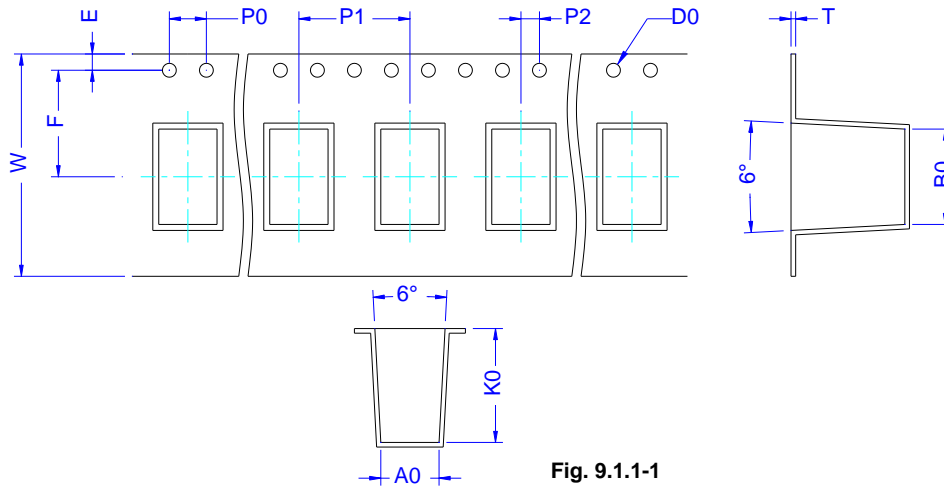

Fig. 9.1.1-1
1) Carrier tape dimensions (Please refer to Fig. 9.1.1-1 and Table 9.1.1-1)